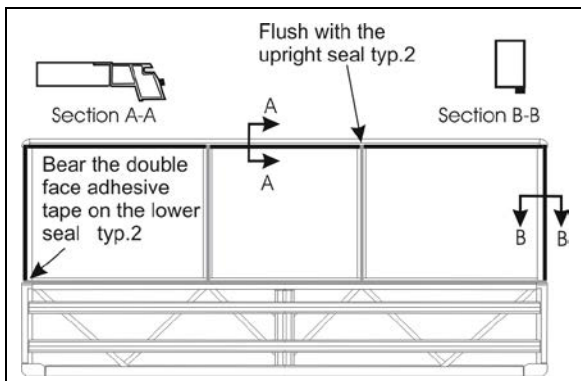
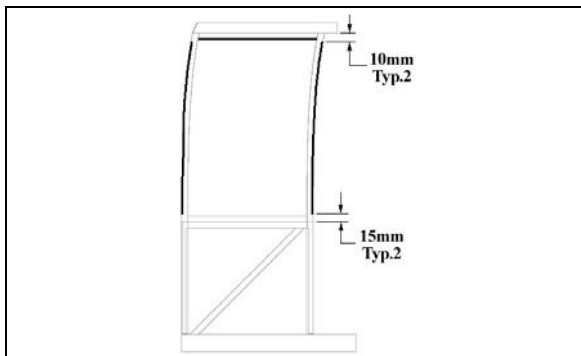

FIGURE 52 : FACE FIXED WINDOWS – 3/16 X 1/2 DOUBLE FACE ADHESIVE TAPE INSTALLATION
FIGURE 53 : SIDE FIXED WINDOW – 1/4 X 1/2 DOUBLE FACE ADHESIVE TAPE INSTALLATION
3. Apply appropriate double face self adhesive tape on the slide-out structure (see FIGURE 52 for face fixed windows or FIGURE 53 for side fixed window).